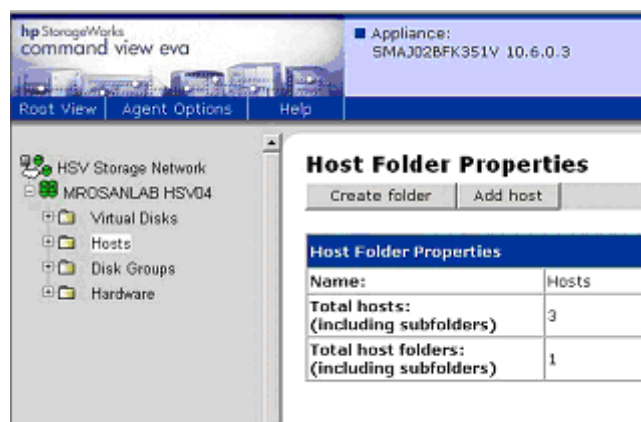

Figure 14 Host Folder—Add host
1. Select the Storage Array icon and click the **Hosts** folder (Figure 14).